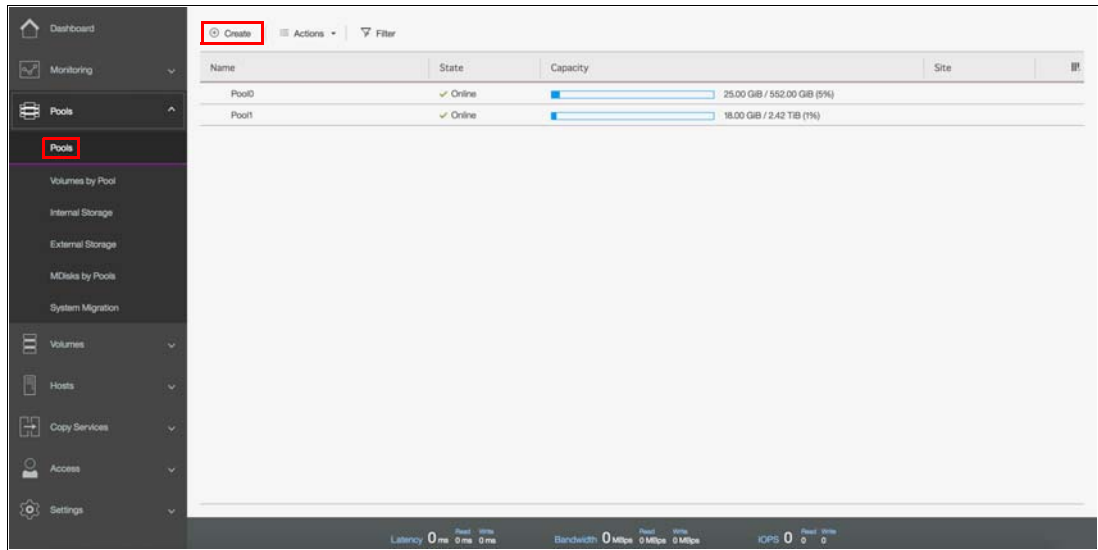

Figure 9-7 Selecting create in the Pools panel
1. Navigate to **Pools** → **Pools** as shown in Figure 9-7 on page 415. Click **Create** to open the Create Pool panel.